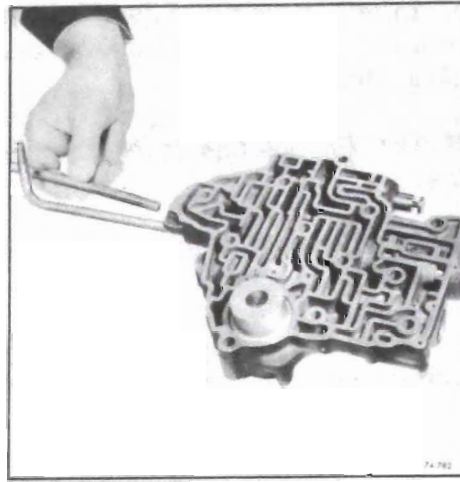

Figure 76-782
2. Install governor pipes into valve body assembly. See Figure 76-782.